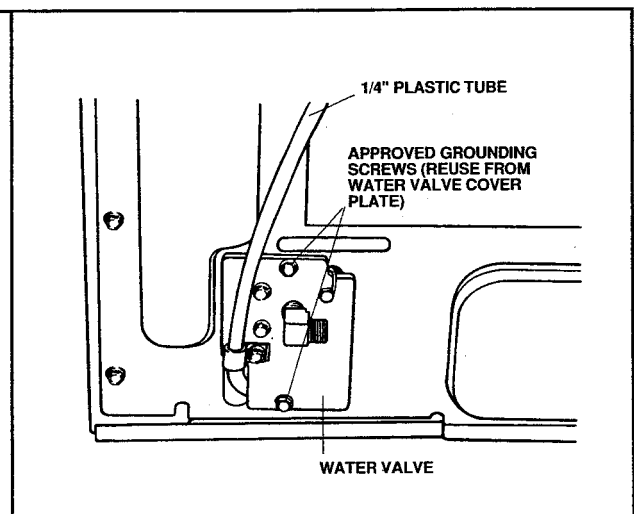

Figure 21
- d. To insure the water valve is electrically grounded, reuse of the two (2) screws saved when removing the water valve cover plate is **required**. Secure the water valve to the cabinet frame by reusing the cover plate screws. See Figure 21.